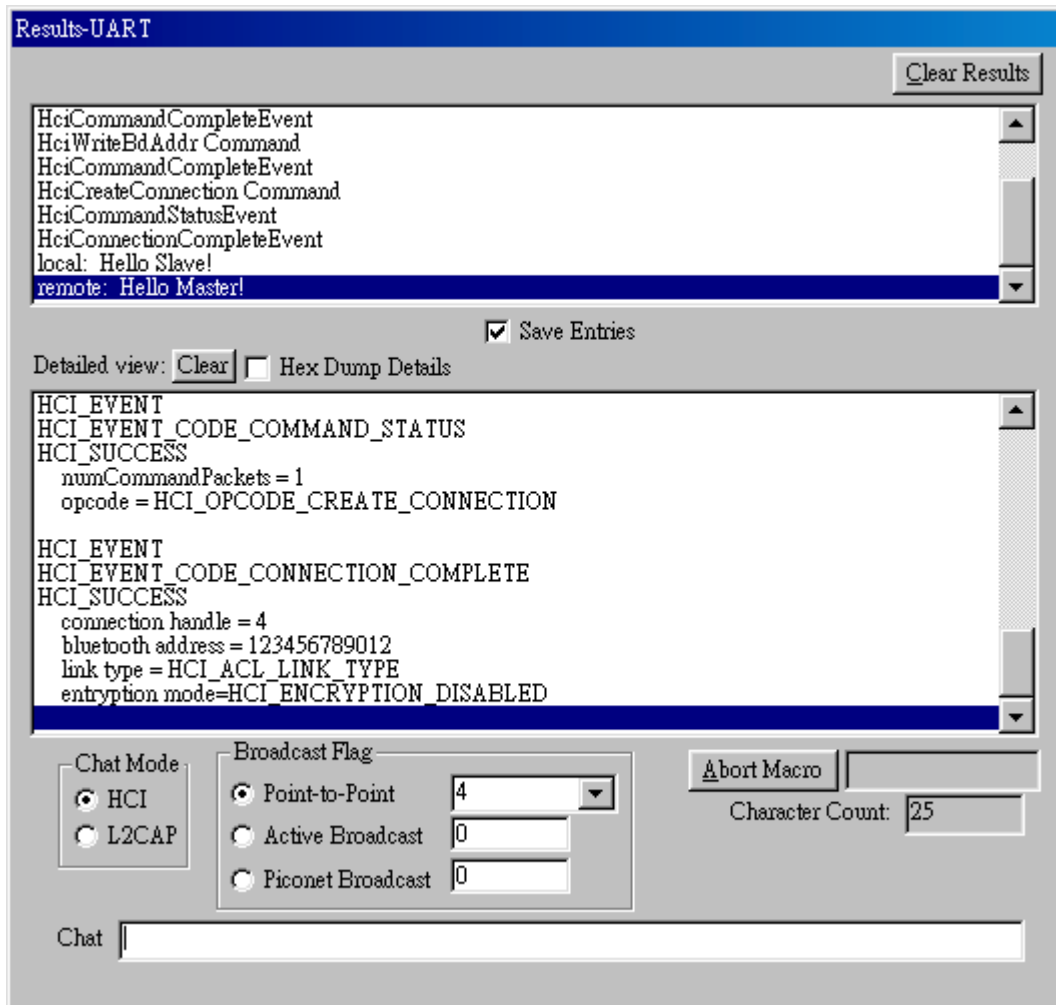

Figure 25: Receive “Hello Master!” Message from Slave Device
12. On the Slave computer, the screen show **“Hello Master!”** message from Slave computer.. (as Figure 25).